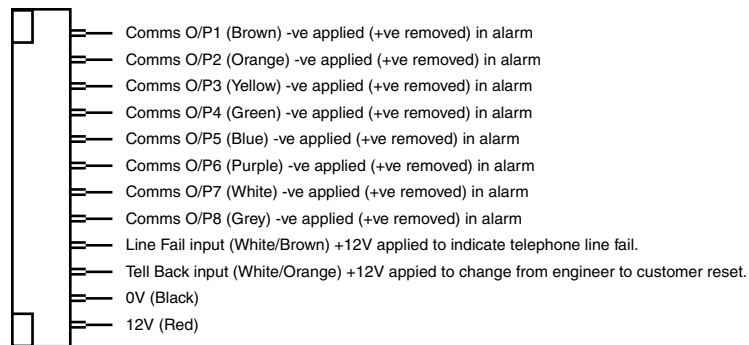

Figure 14. Communications Wiring Harness.
4. Make any necessary connections from the communicator to the Comms Wiring Harness. Figure 14 shows the outputs available on the free ends of the Comms Wiring Harness.